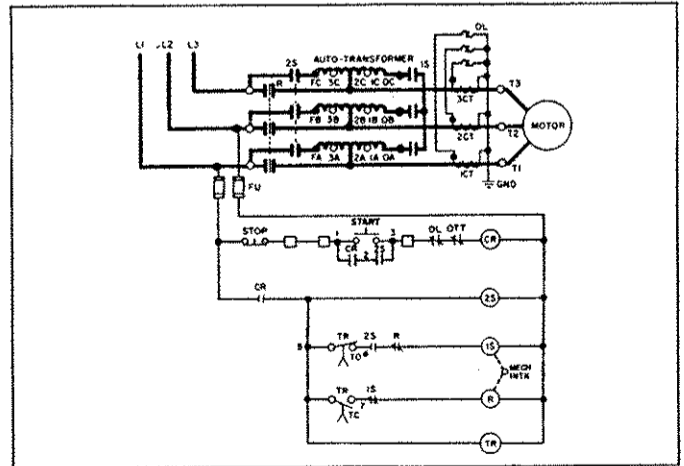

Figure 2. Typical wiring diagram for CR331H
Refer to Figures 2 and 3—depressing *START* button on the push button station will energize the coil on the control relay (CR), the coil of the pneumatic time-delay relay (TR), the coil of the 3-pole *START* contactor (2S), the 3-pole *NEUTRAL* contactor (1S) connecting the autotransformer to the lines and the motor leads to taps on the autotransformer, thus providing reduced voltage for starting. Contact 1-2 and 2-3 closes thereby completing the holding circuit for the magnetic coil of the relay. After a definite time, depending upon the setting of the pneumatic time-delay relay, contact 5-6 opens and contact 5-7 closes causing the *NEUTRAL* contactor to open and the *RUN* contactor to close. During the transition from *START* to *RUN* condition the motor remains connected to the line through a portion of the autotransformer acting as a reactor. This results in closed transition operation.